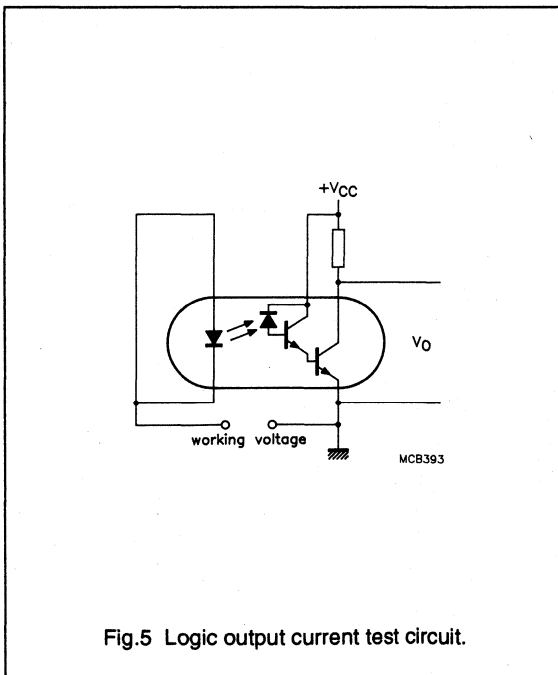

Fig.5 Logic output current test circuit.
1. This parameter is the maximum collector-emitter leakage current measured when a high DC voltage is applied between the emitter and the two shorted diode leads (see Fig.5).